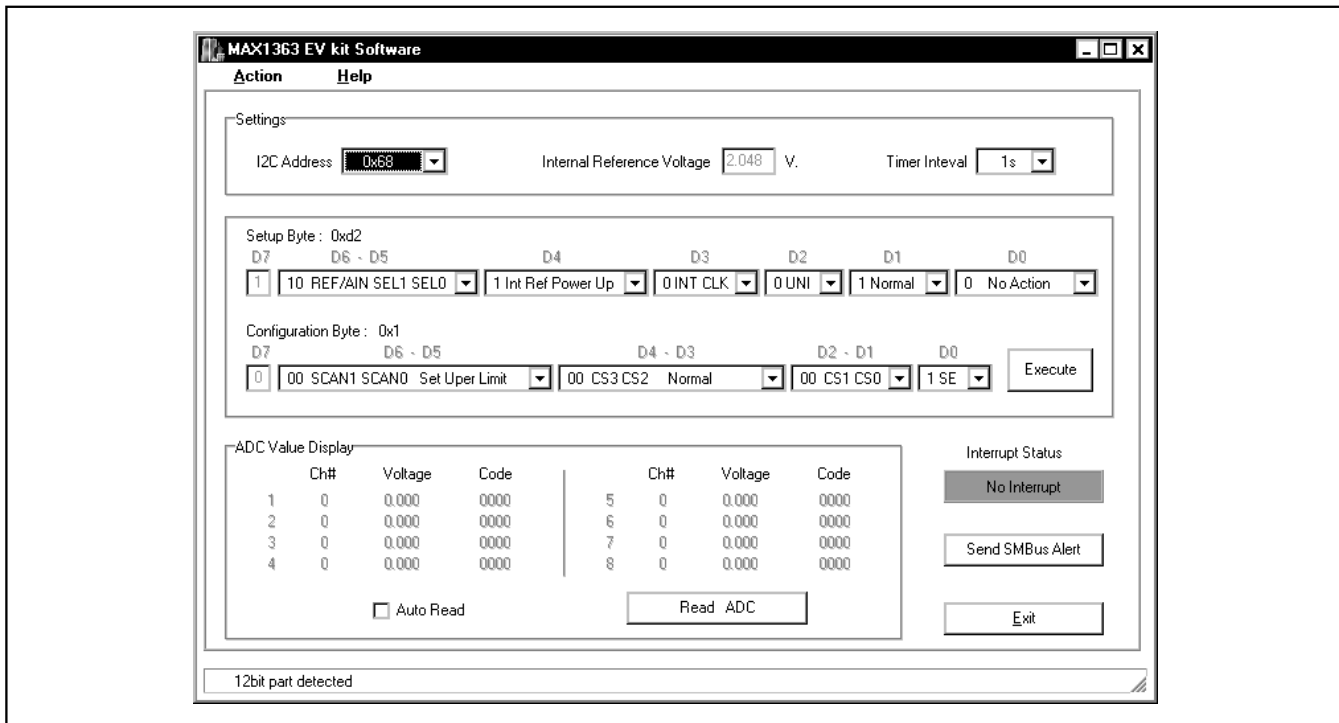
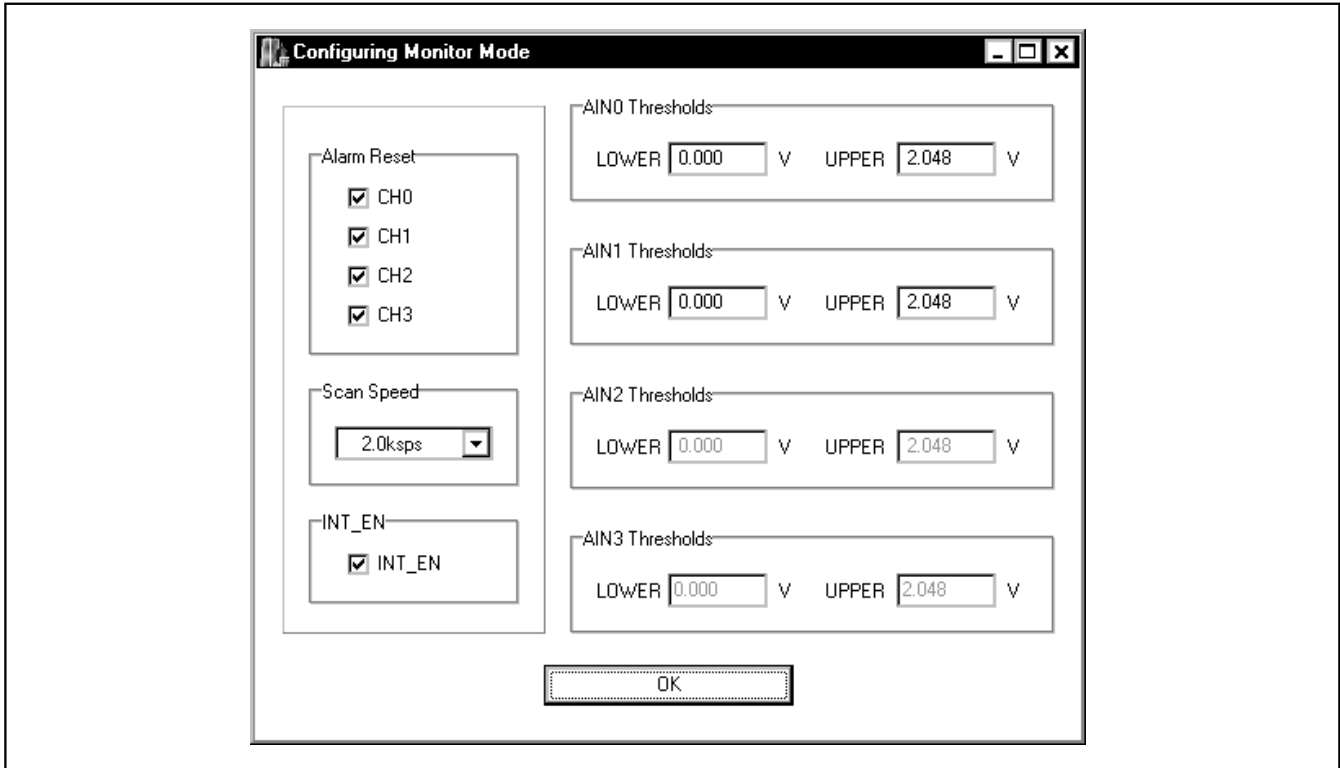

Figure 1. MAX1363 Evaluation Software Main Window
Figure 2. Configuring Monitor-Mode Window
- 8) In the middle of the main window, as shown in Figure 1, set the **Configuration Byte I D2-D1** pull-down menu to **00 CS1 CS0**. Set the **Setup Byte I D0** pull-down menu to **1 Monitor Setup**. The **Configuring Monitor Mode** window pops up as shown in Figure 2.
The evaluation software's main window is shown in Figure 1. The device's I²C address, reference voltage value, and **Timer Interval** pull-down menu are located at the top of the main window. The **Setup Byte** pull-down menus, **Configuration Byte** pull-down menus, and **Execute** button are located in the middle section. The **ADC Value Display** box is located at the bottom of the main window. The **Interrupt Status** indicator, **Send SMBus™ Alert** button, and **Exit** button are at the lower-right side of the main window.
The **I²C Address** pulldown menu shown in the top-left corner of Figure 1 autodetects the lowest MAX1361/MAX1363 device I²C address. If more than one MAX1361/MAX1363 device is connected to the I²C bus, the user can use the **I²C Address** pulldown menu to manually change the device's I²C address as shown in Table 1.
If the **1 Monitor Setup** is selected in the **Setup Byte | D0** pulldown menu, the **Configuring Monitor Mode** window pops up as shown in Figure 2. The user can reset the channel alarm bits by checking the proper channel in the **Alarm Reset** box. Select the **Scan Speed** pulldown-menu setting. Enable the interrupt by checking the **INT_EN** checkbox, and set the **LOWER** and **UPPER** edit fields to the desired value in the **AIN_ Thresholds** box. Depending on the **Setup Byte | D2 - D1** and **Setup Byte | D0** pulldown-menu settings, the threshold values for some of the channels may be grayed out.